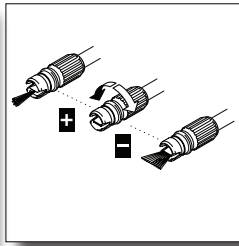

Fig. 6
- When using the adjustable spray lance, the spray pattern and intensity can be controlled according to power of water needed for each task by twisting the spray nozzle at the far end of the lance (Fig. 6). This can be used for sweeping leaves or debris from flat surfaces or curbing. This lance has the widest variety of applications as the fan degree allows for good impact pressure and cleaning coverage.